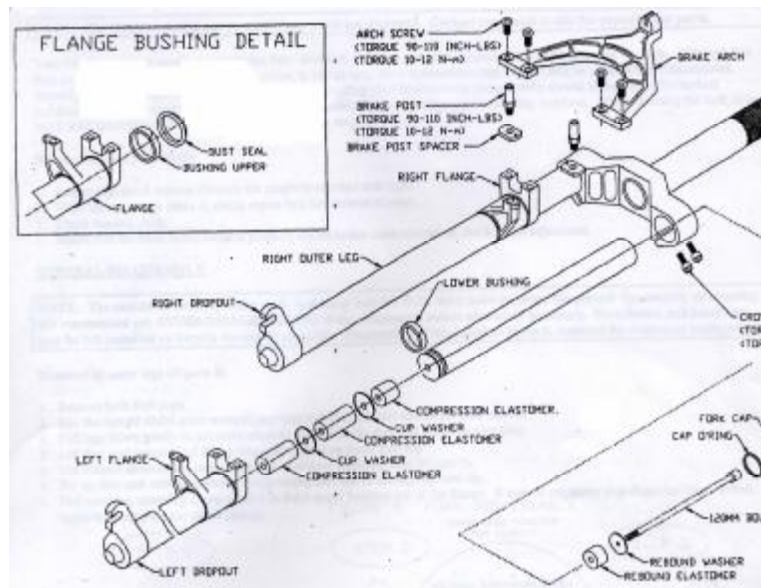

Figure 1
5. Install lower bushing and assemble elastomers* as shown ensuring that there is a washer between each elastomer(Figure 1).